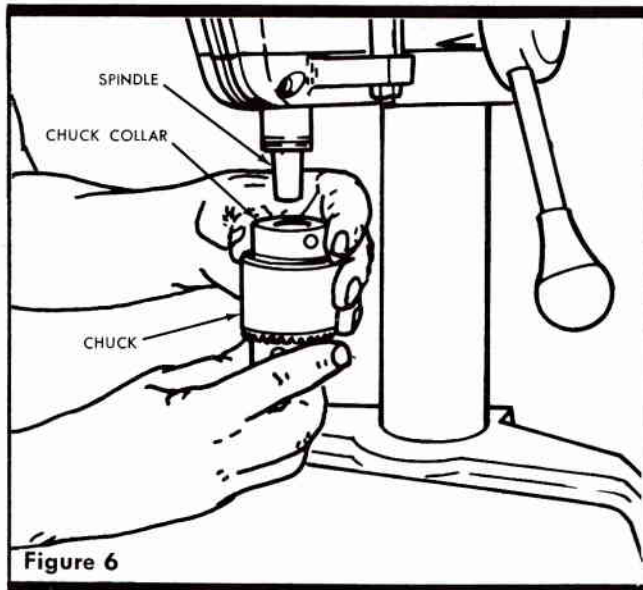
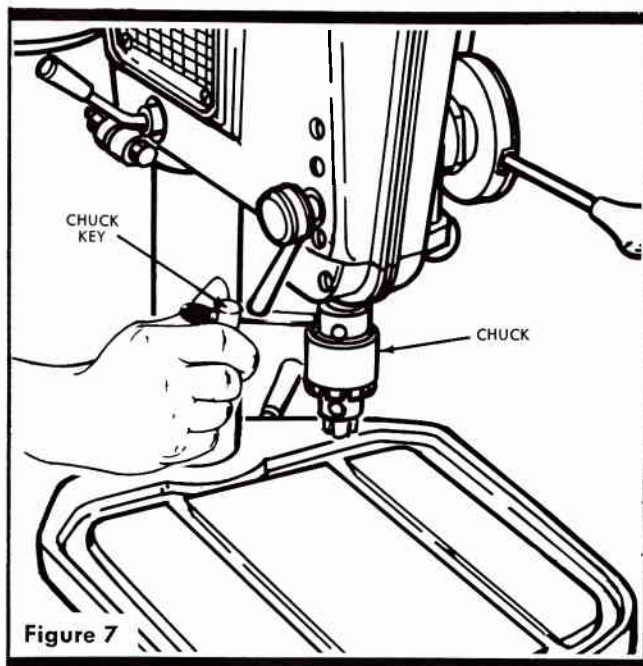

Figure 6
Figure 7
2. Apply a light film of oil on spindle taper and place chuck on end of spindle (see figure 6). Screw the chuck collar onto the threaded portion on end of spindle. Hold spindle pulley with one hand to prevent spindle from rotating and tighten chuck collar with drill chuck key (see figure 7).
When removal of the chuck is required, make sure the power cord is disconnected. Prevent rotation of spindle by holding the spindle pulley, and loosen chuck locking collar with the end of the chuck key (see figure 7). Continued rotation of the collar will force the chuck off the tapered spindle. Do not attempt to drive or wedge the chuck off, as this could damage the spindle, spindle bearing or both.